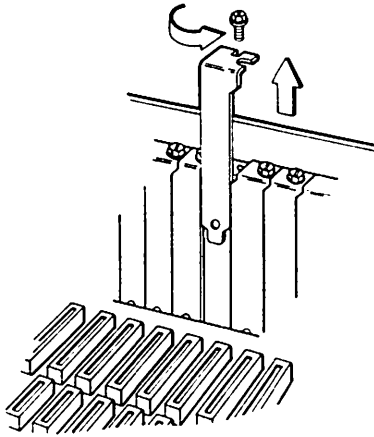

Figure 7: Removing the Expansion Slot Cover
5. Locate an available expansion slot and remove the screw that holds the slot cover in place. Then remove the expansion slot cover. See Figure 7.